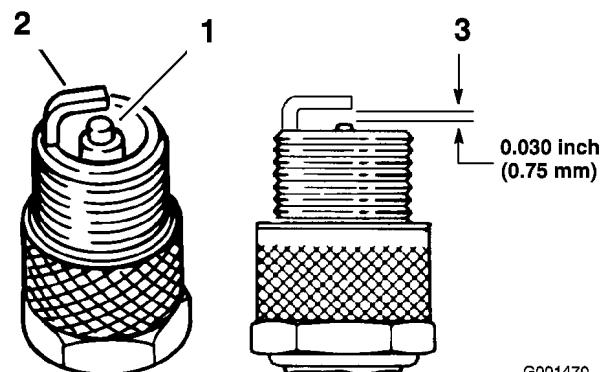

Figure 34
1. Look at the center of the spark plugs (Figure 34). If you see light brown or gray on the insulator, the engine is operating properly. A black coating on the insulator usually means that the air cleaner is dirty.
- Check the gap between the center and side electrodes (Figure 34). Bend the side electrode (Figure 34) if the gap is not correct.
- Connect the wires to the spark plugs (Figure 34).